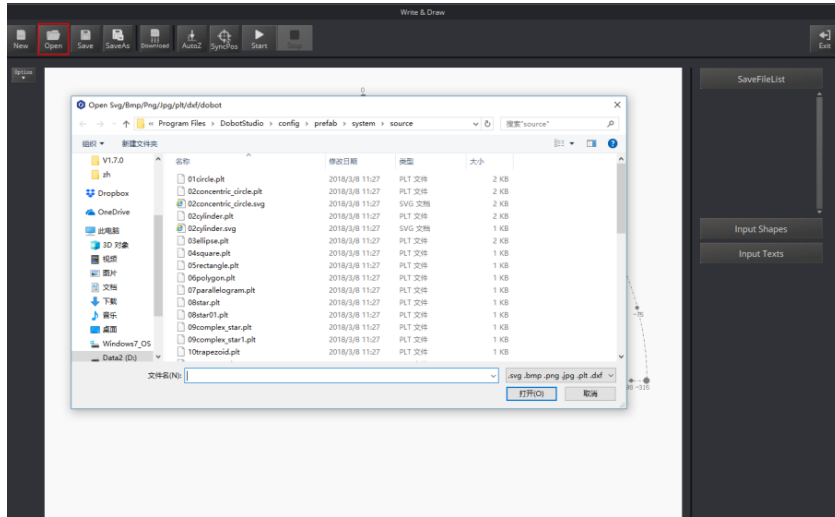

Figure 5.47 Open a PLT or SVG system image file
- Click **Open** on the **Write & Draw** page to import a built-in PLT or SVG image file from the DobotStudio installation directory ***InstallatonDirectory\DobotStudio\config\prefab\system\source***, as shown in Figure 5.47. You can also import your custom PLT or SVG image file.